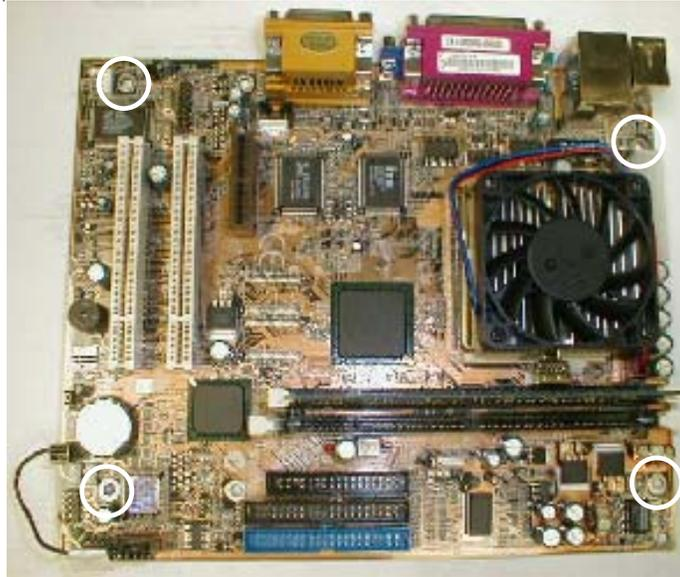

FIGURE 1 – MOTHERBOARD REMOVAL –
4. Remove the 4 screws mounting the motherboard to the mounting frame (see Figure 1) and carefully remove the board. Insert the board into an anti-static bag for storage. NOTE: Be sure to read the Motherboard Handling Precautions before handling the board.